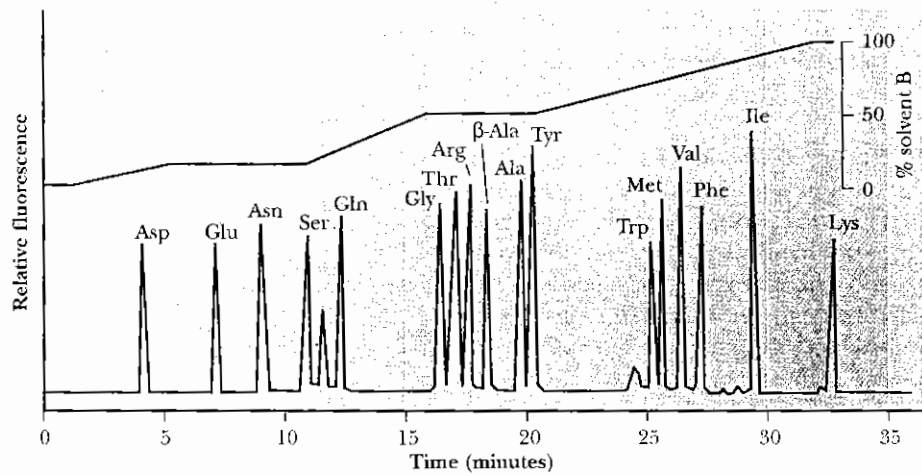

FIGURE 5.15 HPLC chromatogram of amino acid separation.
Step 1 in determining the primary structure of a protein is to establish which amino acids are present and in what proportions. Breaking a protein down to its component amino acids is relatively easy: heat a solution of the protein in acid, usually 6 M HCl, at 100°C to 110°C for 12 to 36 hours to hydrolyze the peptide bonds. Separation and identification of the products are somewhat more difficult and are best done by an amino acid analyzer. This automated instrument gives both qualitative information about the identities of the amino acids present and quantitative information about the relative amounts of those amino acids. Not only does it analyze amino acids, but it also allows informed decisions to be made about which procedures to choose later in the sequencing (see Steps 3 and 4 in Figure 5.14). An amino acid analyzer separates the mixture of amino acids either by ion-exchange chromatography or by **high-performance liquid chromatography (HPLC)**. Figure 5.15 shows a typical result of amino acid separation with this technique.